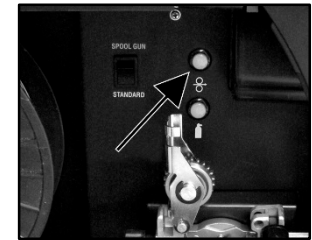

Fig. 16
10. Press and hold the inch button (Q) to feed the wire through to the torch neck. Release the inch button when the wire exits the torch neck (Fig. 16).